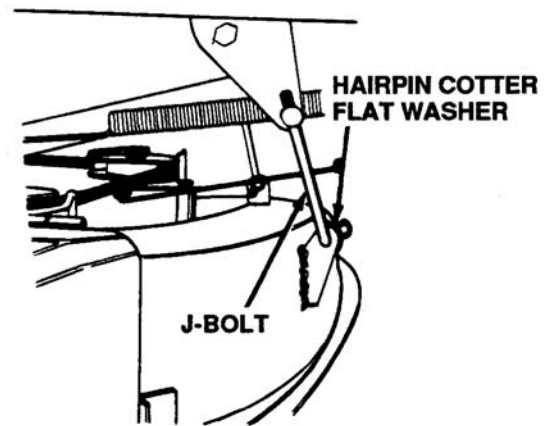

Figure 12-27. Location of J-Bolts
10. Remove the two hairpin cotters and flat washers which secure the J-bolts to the front of the deck. See Figure 12-27.